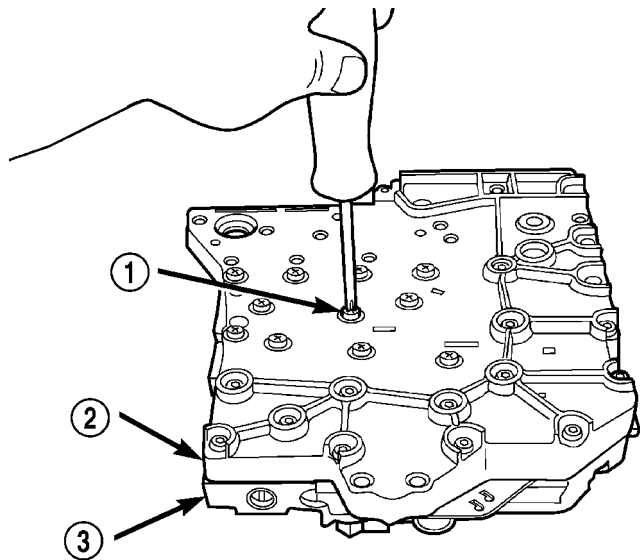

Fig. 342 Install Valve Body to Transfer Plate Screws
(11) Install twenty-four transfer plate to valve body screws (Fig. 342) and torque to 5 N·m (45 in. lbs.).